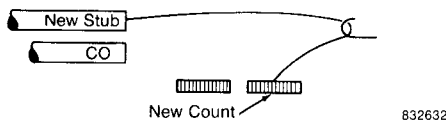

Fig. 104—Place piece out stub through tie point.
- f. Place piece out stub through tie point on opposite side of stub entry. See Figure 104.